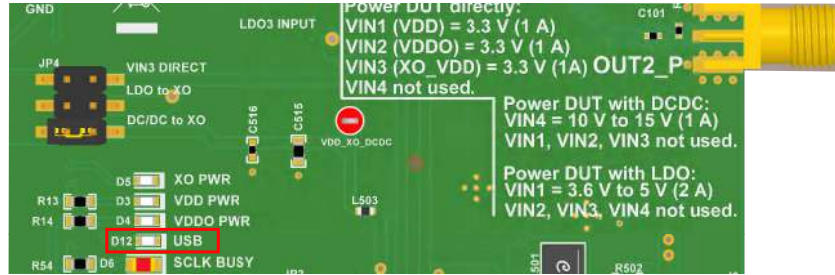

Figure 2-1. USB LED
- iii. Click *Identify* to blink LED shown in Figure 2-1. This confirms you are connected to the board you expect. Be aware that USB2ANY devices connected to the PC but not attached to by a TICS Pro